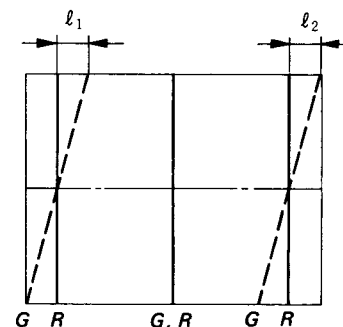

Fig. 3-36
- 10) When the green vertical lines slanting at the both sides of the screen as shown in Fig. 3-36; Readjust RV5301 (H. KEYS<G>) so that " ℓ_1 " is equal to " ℓ_2 ".